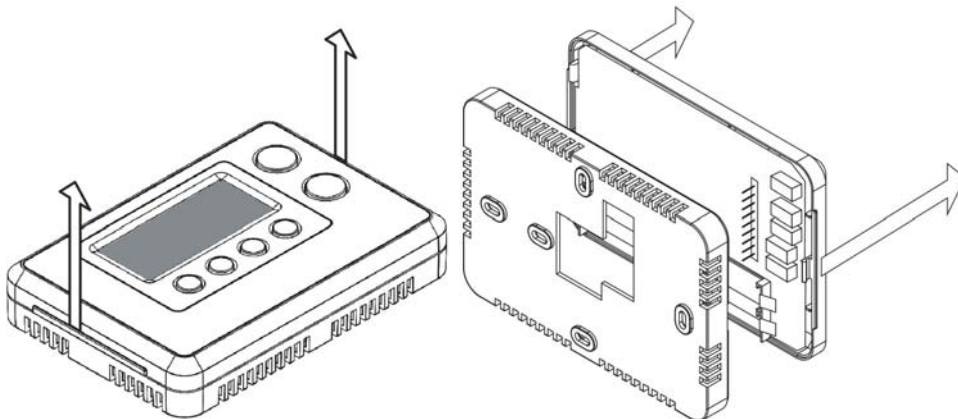

Figure 2. Open ZTS-110
1. Open the ZTS-110 by pulling the two sections apart (Figure 2). Use the fingertips of one hand to grip the tab on the front housing.